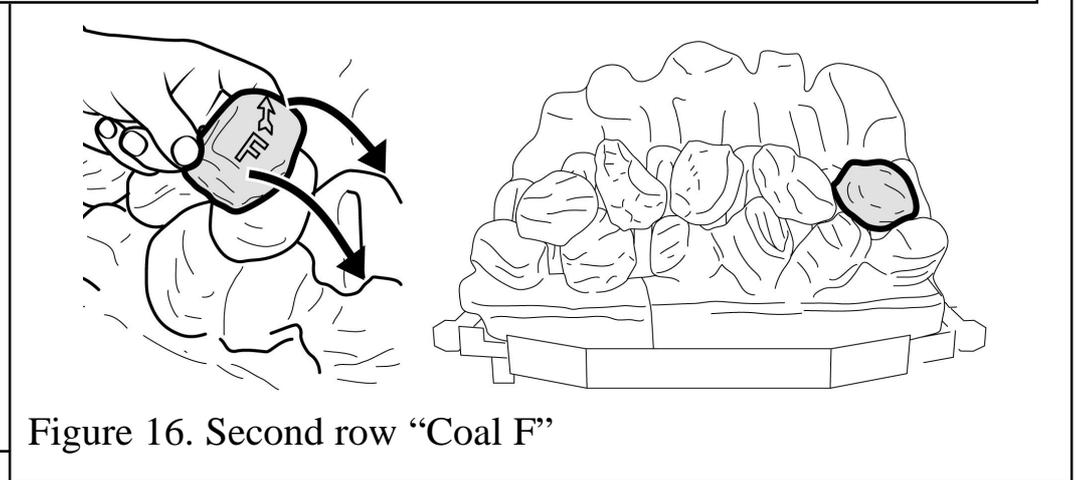

Figure 16. Second row "Coal F"
10. Hold coal 'F' upright with the arrow pointing to the top. Locate coal 'F' as shown in figure 16.